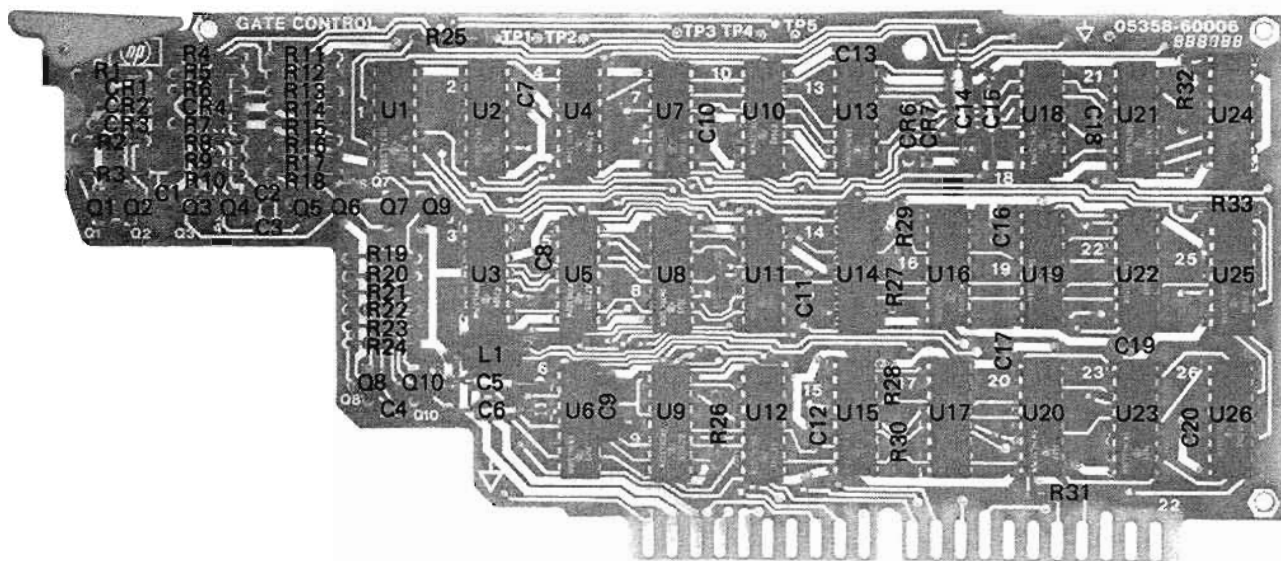

*Figure 8-9*
- Figure 8-9 A5 System Control Assembly